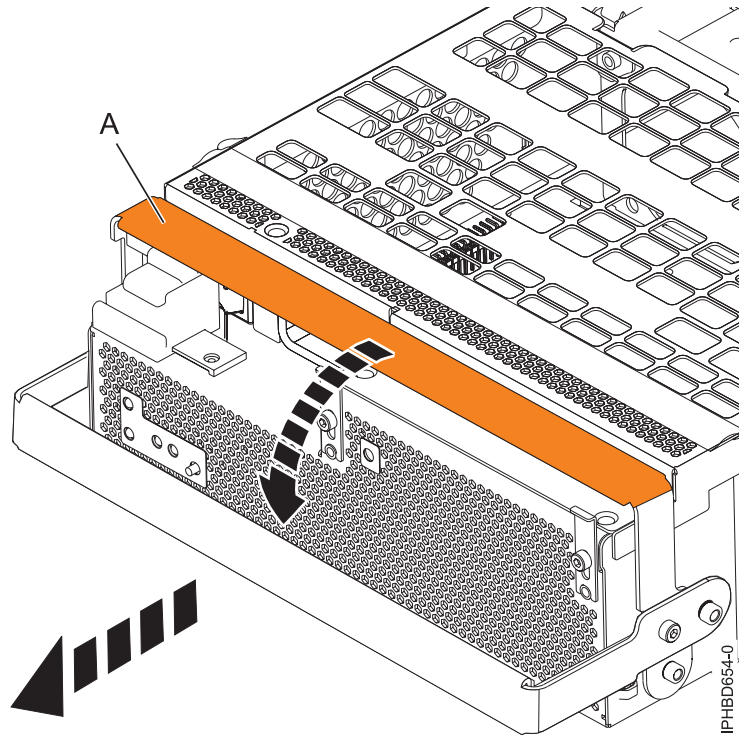

Figure 9. Removing a power supply
8. Rotate the power supply locking handle (A) to the open position, as shown in Figure 9 on page 11. Pull out the power supply from the expansion unit.